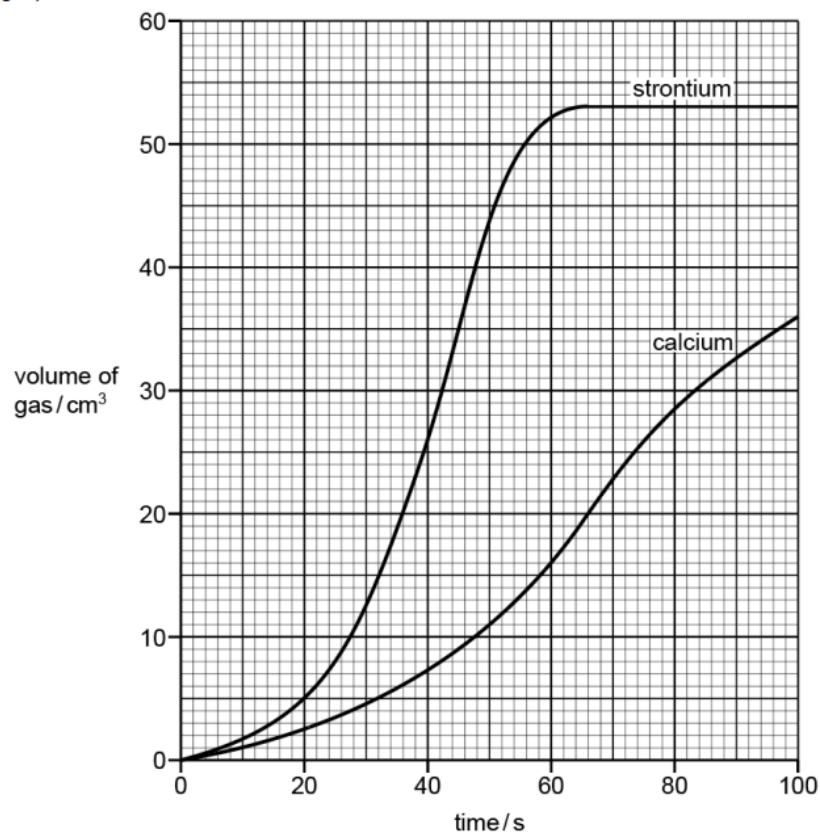

Fig. 9.2
- (b) A fixed mass of calcium was allowed to react completely with water. The volume of gas given off was recorded at fixed time intervals during the reaction. The experiment was repeated using strontium but keeping all the conditions the same. The graph obtained from the results is shown in Fig. 9.2 below.
- (i) Using the information from Fig. 9.2, compare the reactivity of strontium and calcium.